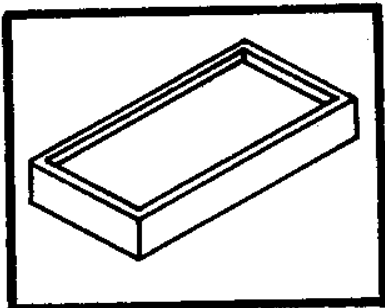

Fig. 24 - Tile Mold
75. Floor Tiles Tiles produced with the CINVA-Ram Block Press make inexpensive, attractive and durable flooring. The tile insert is a wooden block with a metal face (see Fig.24).